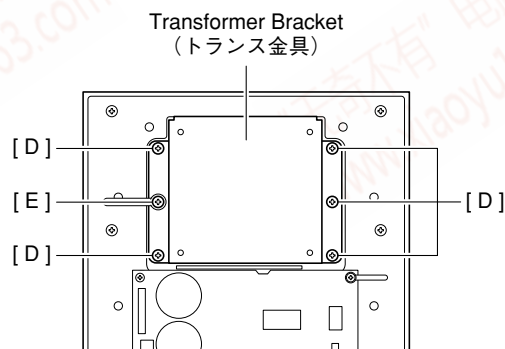

Fig. 5 (図 5)
- 5-3 Remove the five (5) screws marked [D] and screw marked [E]. The transformer bracket can then be removed. (Fig. 5)
- 5-3 [D]のネジ5本と[E]のネジを外し、トランス金具を外します。(図5)